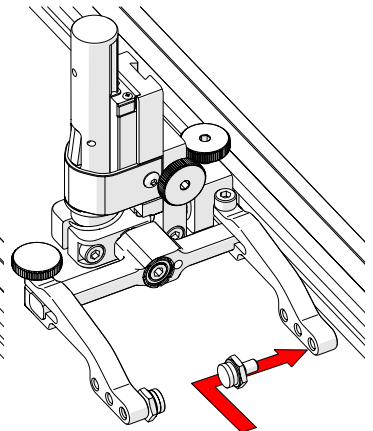

Fig. 144 - Place buttons
3. Position the pivot buttons where necessary. When a narrow scanning footprint is required, use the pivot button holes closest to the yoke (Fig. 144).